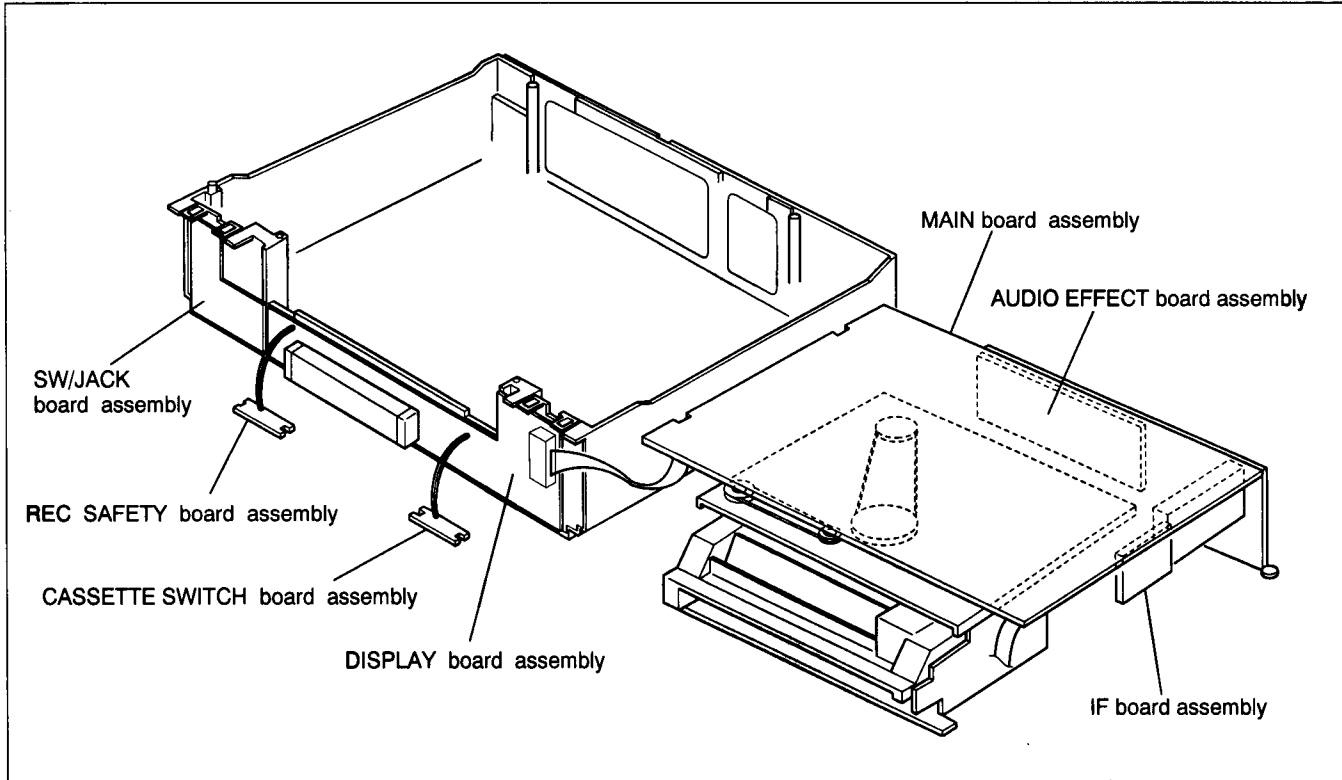
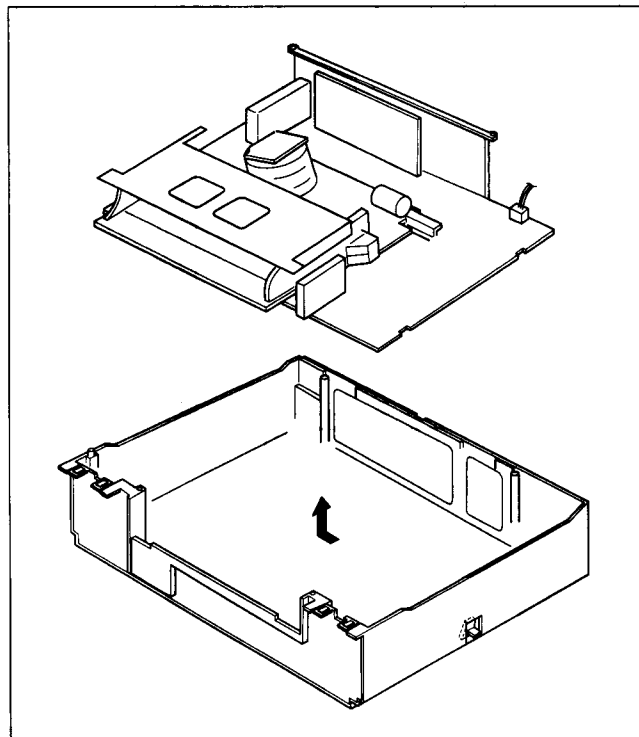

Fig. 1-5-3
Fig. 1-5-2
(3) Remove the Mechanism assembly (including Cassette housing) and Main board assembly out of the chassis as shown in Fig. 1-5-2.
(5) Turn over the Mechanism assembly and Main board assembly then connect CN1201 of the DISPLAY board assembly.
(6) Carry out checks & repairs as necessary as shown in Fig.1-5-3.